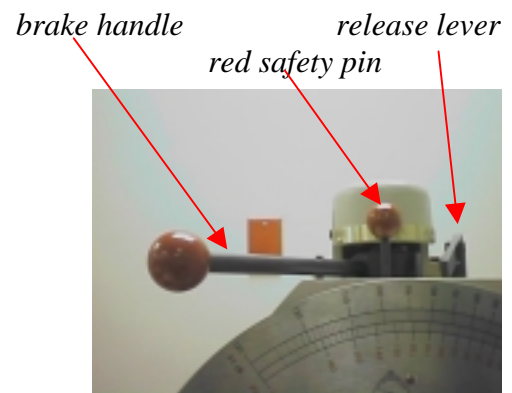

Figure 1. Brake components
(see Figure 1 for relevant parts)
- 5.5 Lift the safety pin and push the handle into the brake position. (see Figure 1)
- 5.6 Put the pin back into its original position. (see Figure 1)